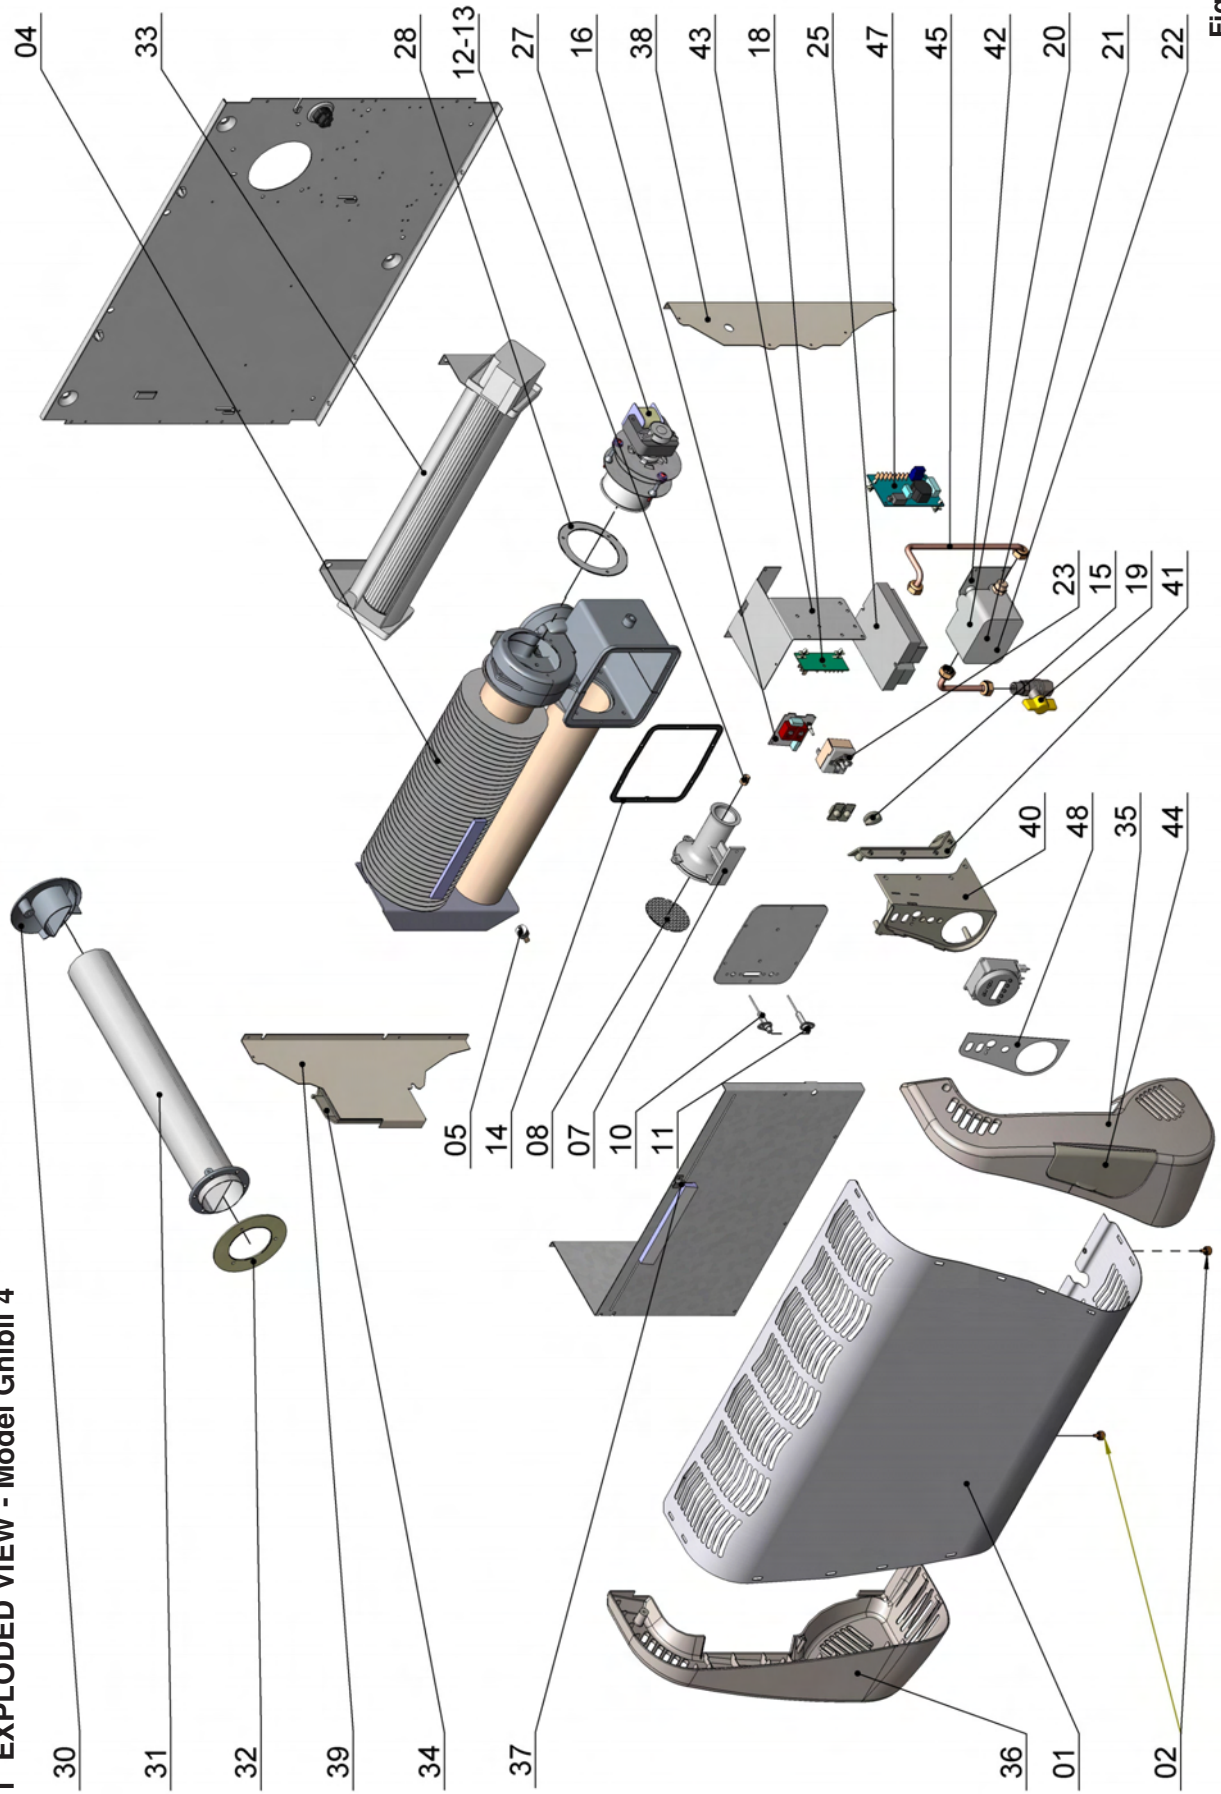

Fig. 5
**Legend of components Ghibli 4 (see fig. 5)**